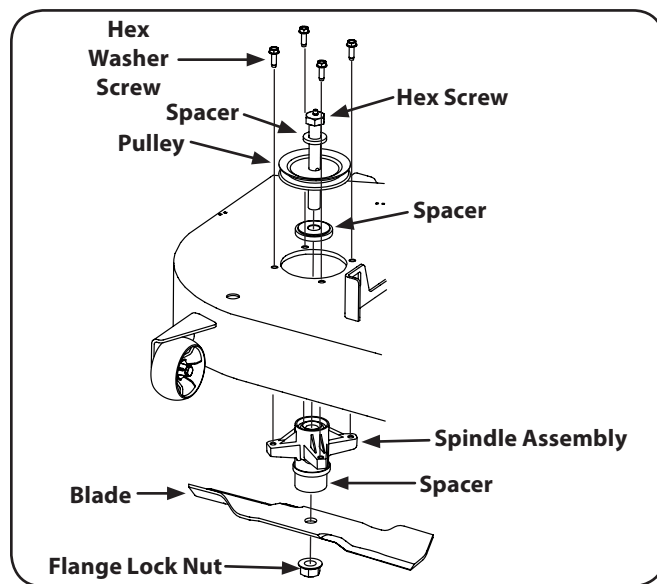

Figure 7-11
3. Use a $\frac{3}{4}$ " wrench to hold the hex nut on top of the spindle assembly when loosening the hex nut securing the blade. A block of wood may be placed between the deck housing and the cutting edge of the blade to help in breaking loose the hex nut securing the blade. See Fig. 7-11.
4. Using a wrench or socket ratchet remove four hex washer screws. Remove the spindle assembly. See Fig. 7-11.